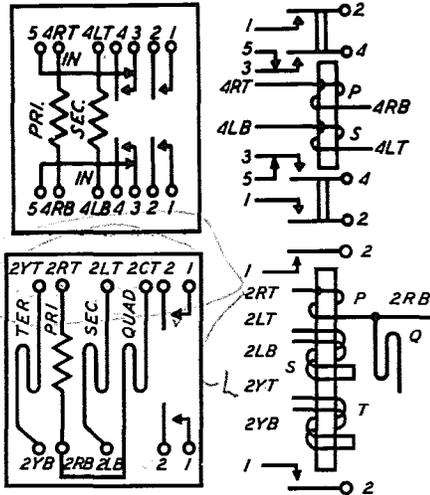

FIG. 2 - WINDING AND SPRING TERMINAL ARRANGEMENT AS VIEWED FROM THE REAR (TERMINAL SIDE) - A, E, F, H, M, R, T, AB, EA AND 236 TYPE RELAYS
2.10 The first letter (L, R, C or Y) shows the location of the winding terminal with respect to the relay core. The terminals are arranged in two horizontal rows as shown in Fig. 2. Where no more than two winding terminals are in one row, the designations L and R are used, L designating a terminal to the right and R